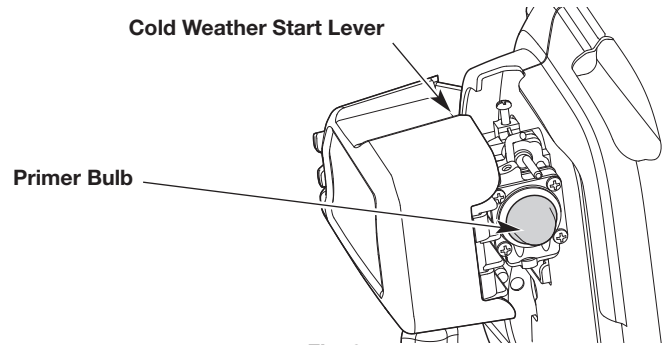

Fig. 8
IF COLD... In cold weather (below 40°F), move the cold weather start lever to the **Closed** position (Fig. 8). **DO NOT** move the cold weather start lever to the **Closed** position if the temperature is above 40°F.
3. Slowly press and release the primer bulb **10 times** (Fig. 8). If fuel cannot be seen in the primer bulb, press and release the primer bulb until fuel is visible.
IF COLD... In cold weather (below 40°F), move the cold weather start lever back to the **Open** position (Fig. 8).